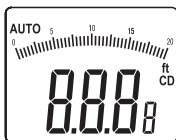

Figure 5-6-2
- Press the “RAN” button to switch between meters and feet (as shown in figure 5-6-2).